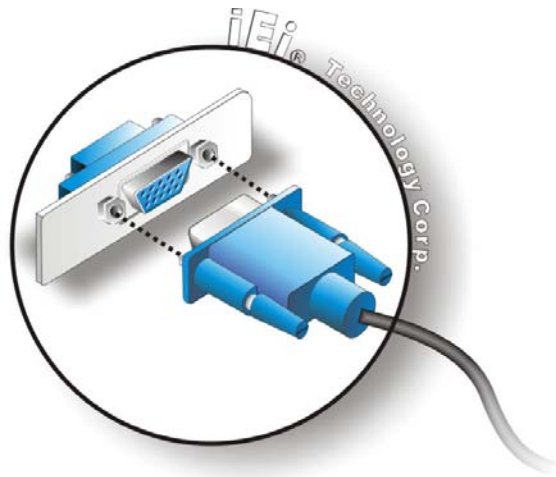

Figure 4-23: VGA Connector
- Step 3: Insert the VGA connector** Once the connectors are properly aligned with the insert the male connector from the VGA screen into the female connector on the IMBA-G412ISA. See **Figure 4-23**.